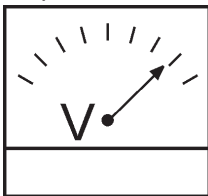

Figure 45. Voltmeter Meter
- The generator's AC-voltmeter (Figure 45) will display the generator's output in **VOLTS**.